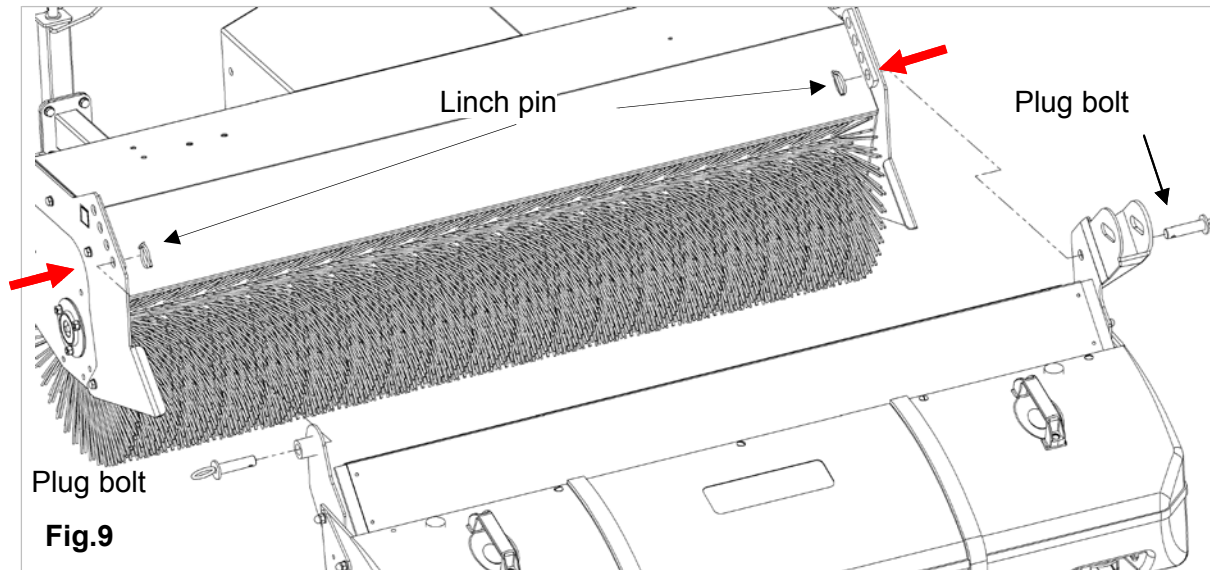

Fig.9
<p>Fig.8</p>	<p>2. In the direction of travel left as shown in Fig.9 is the container recording with</p> <ul style="list-style-type: none"> 3 x Skt.-screw M8 x 20 2 x Skt.-screw M8 x 40 10 x U-disk 10 x stop nut mounted.
3. Hook the dirt collector (with new sweeping roller) with the two locking pins, see Fig.9 left and right into the lower bore of the container holder and secure with linch pins. Depending on the wear of the sweeping roller, use the other holes according to the operating instructions.